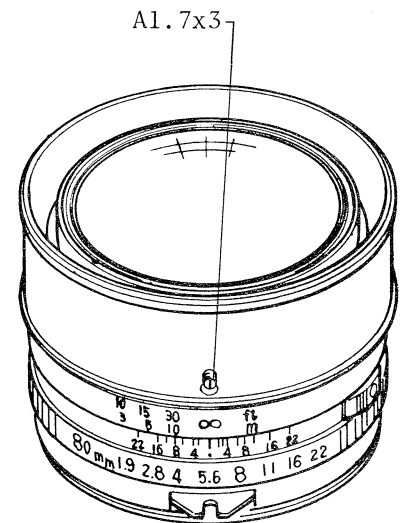

Fig.5
- 2) After loosening three focus ring set screws A1.7x3 as shown in Fig. 5, set the lens on SLS-4 l.f.b. stand and adjust it by the auto-collimator.
- 2) Remove three A1.7x3 set screws from holes of LI131-4131 focusing ring as shown in Fig 5. Then LI131-4121 filter ring can be removed.